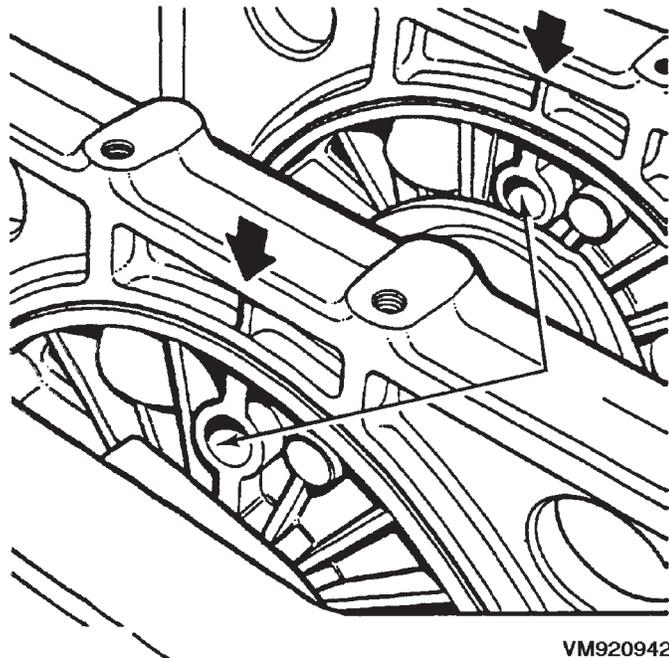

Fig. 57 Main Bearing Carrier Alignment
(7) Slide special tool (VM-1002) over the crankshaft gear and, insert the crankshaft and carrier assembly into the crankcase in the same manner used for removal.
(8) Align the holes in the lower carriers, with the center of the crankcase webs (Fig. 57).